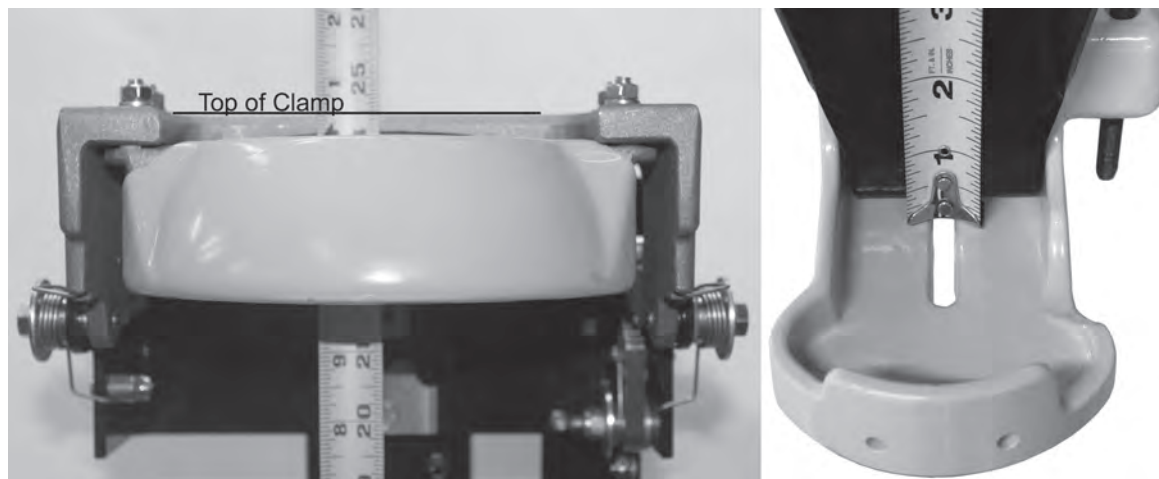

Figure 7
13. Measure the distance from the inside bottom of the Footplate to the inside top of the closed Top Clamp Assembly (see Figure 7, below). This distance should equal your overall length of the air cylinder plus 1" as a starting point. If your EZ-LOC has an adjustable footplate, use the Adjustment Rod Knob to turn the Footplate Adjustment Rod and achieve this measurement. If your EZ-LOC has a fixed footplate, loosen the two (2) bolts holding it in place and slide until achieving the measurement.